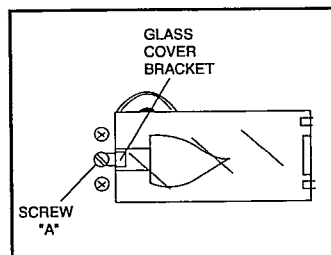

Figure 13
3. Use a dime in slot of screw "A" to twist and remove screw. (Screw "A" is the only screw with a "slotted" head as shown in Figure 13.) Also, remove Glass Cover Bracket.